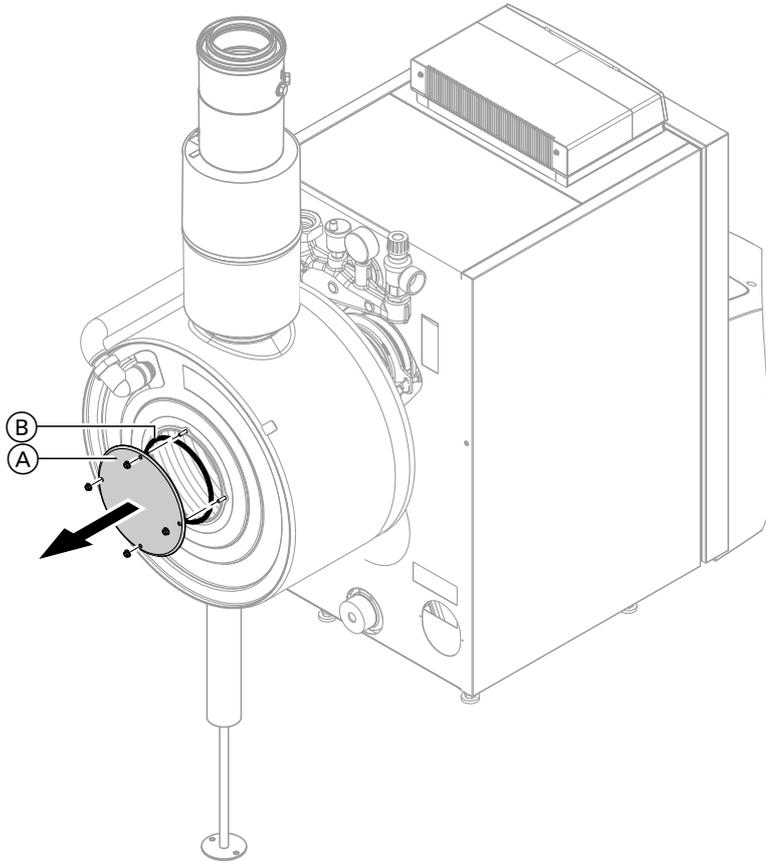

Fig. 9
4. Insert new gasket (B, Fig. 9) and fit the cover.